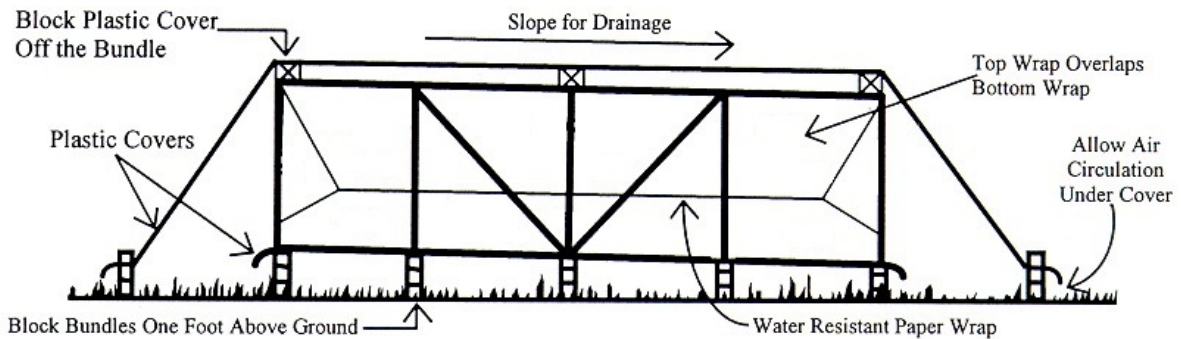

Figure 4. Proper Storage of Building Panel Bundles at Job Site
Paper wrapping should be used to protect the bundles of material from dirt and moisture. Plastic or other non-breathing material should not be used for wrapping bundles because these materials prevent air passage and tend to trap moisture in the bundle. The top wrapping sheet of each bundle should lap **over** the bottom paper, to prevent rainwater from entering the bundle (see Figure 4). All panel bundles should be accompanied by a tag or other listing that clearly describes each bundle's contents.
4. Elevate one end of the bundle slightly to permit runoff of moisture from the top of the bundle or from between nested panels. Water-resistant paper will not provide long-term resistance to moisture penetration from puddled water on top of the bundle. A waterproof cover should be placed over the bundles, with allowance for air circulation under the cover (see Figure 4).